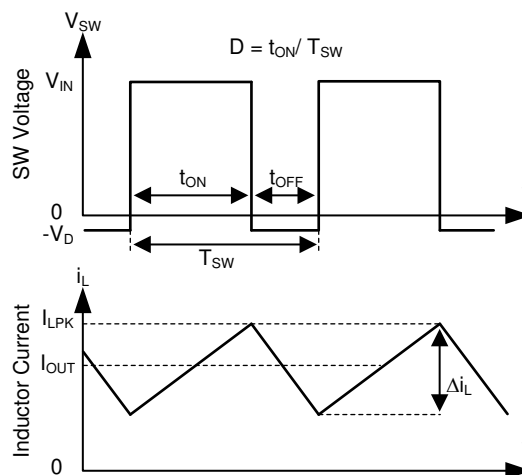

Figure 10-2. SW Node and Inductor Current Waveforms in Continuous Conduction Mode (CCM)
The following operating description of the TPS2586x-Q1 refers to the Functional Block Diagram. The TPS2586x-Q1 integrates a monolithic, synchronous, rectified, step-down, switch-mode converter with internal power MOSFETs and USB current-limit switches with charging ports auto-detection. The TPS2586x-Q1 offers a compact and high efficiency solution with excellent load and line regulation over a wide input supply range. The TPS2586x-Q1 supplies a regulated output voltage by turning on the high-side (HS) and low-side (LS) NMOS switches with controlled duty cycle. During high-side switch ON time, the SW pin voltage swings up to approximately V_{IN} . The inductor current i_L increases with linear slope $(V_{IN} - V_{OUT}) / L$. When the HS switch is turned off by the control logic, the LS switch is turned on after an anti-shoot-through dead time. Inductor current discharges through the LS switch with a slope of $-V_{OUT} / L$. The control parameter of a buck converter is defined as Duty Cycle $D = t_{ON} / T_{SW}$, where t_{ON} is the high-side switch ON time and T_{SW} is the switching period, shown in Figure 10-2. The regulator control loop maintains a constant output voltage by adjusting the duty cycle D. In an ideal buck converter, where losses are ignored, D is proportional to the output voltage and inversely proportional to the input voltage: $D = V_{OUT} / V_{IN}$.